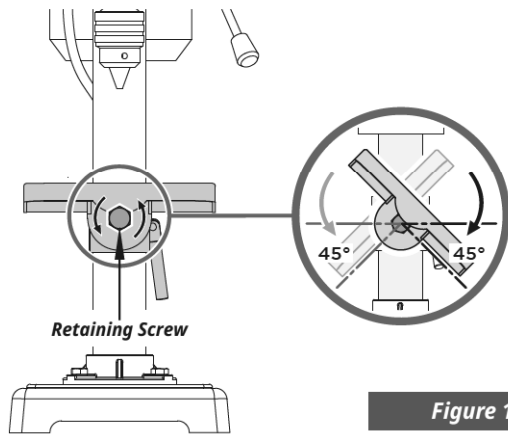

Figure 16
- You can also adjust the tilt angle of the drilling bench. To do so, release the retaining screw under the drilling bench with an open end wrench SW 19 (not scope of delivery). Tilt the drilling bench as desired to the right or left, up to a max. of 45° and secure the drilling bench again with the retaining screw. ( See Figure 16&17 )